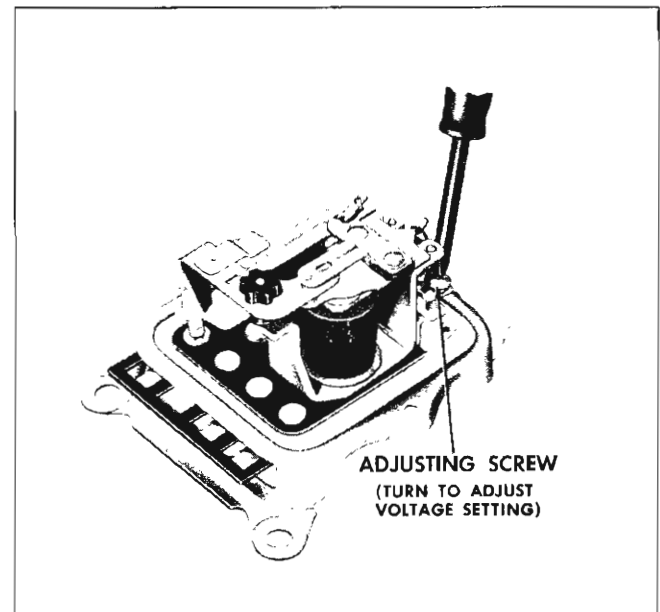

Fig. 11-34 Adjusting Voltage Setting
5. To adjust the voltage setting while operating on the upper or shorting contacts, turn the adjusting screw as shown in Fig. 11-34.
**CAUTION:** Final adjustment should always be made by increasing spring tension to assure contact between the screw head and spring support (Fig. 11-34).